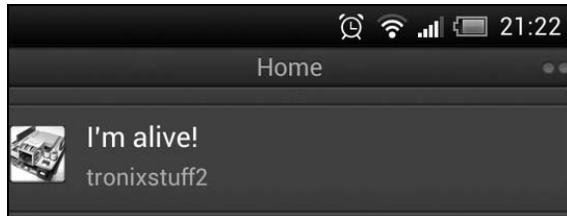

Figure 19-4: Your Arduino’s tweet
As with Project 60, insert the IP address at ❶ and modify the MAC address if necessary at ❷. Then insert the Twitter token between the double quotes at ❸. Finally, insert the text that you want to tweet at ❹. Now upload the sketch and connect your hardware to the network. (Don’t forget to follow your Arduino’s Twitter account with your own account!) After a minute or so, visit your Twitter page and the message should be displayed, as shown in Figure 19-4.